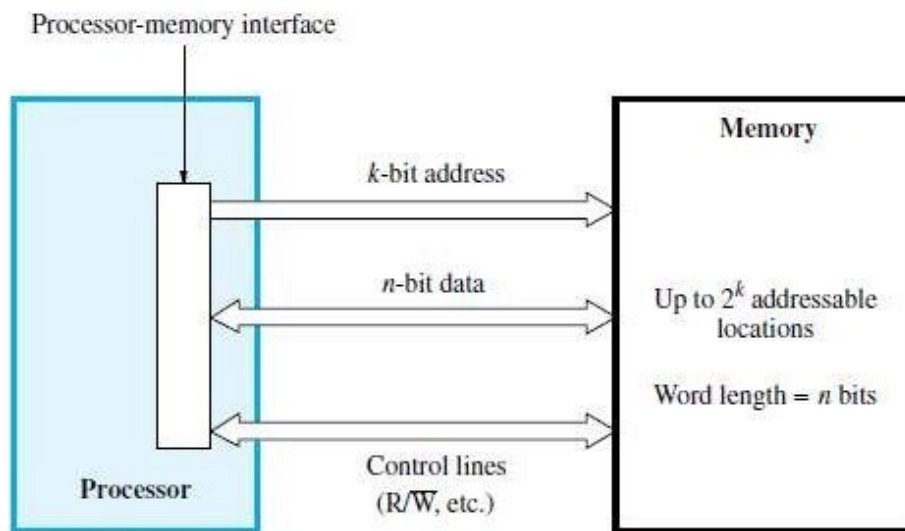

Figure 8.1 Connection of the memory to the processor.
- The data-transfer takes place over the processor-bus (Figure 8.1).